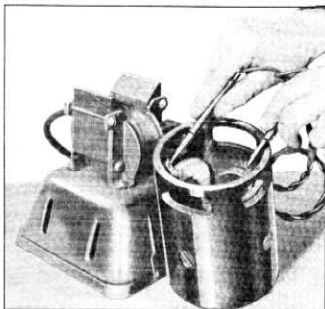

Fig. 41—Field Coil Test for Continuous Circuit
- Place the test prods on the field coil leads (fig. 41).